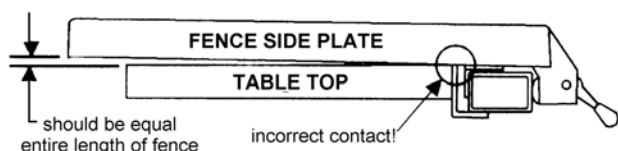

Figure 26
2. View the fence from the left side of the saw. Look for the space between the table and the fence bottom to be equal along the entire length of the fence (Figure 26).